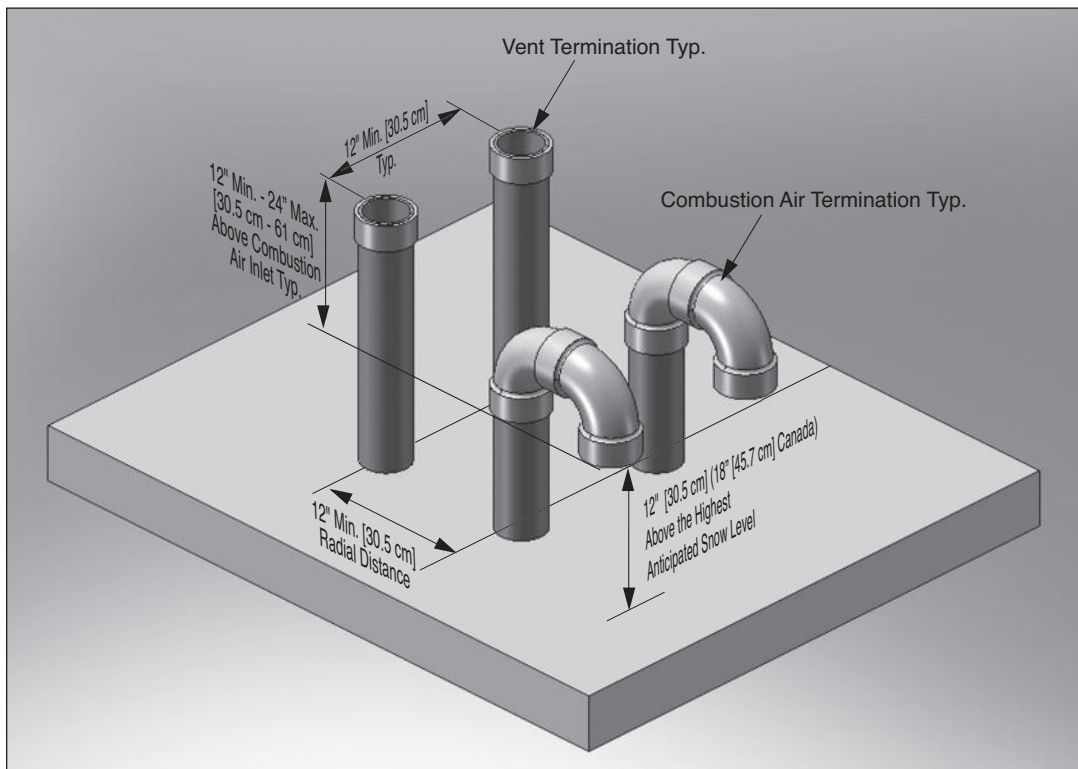

Fig. 7: Direct Vent - Vertical Termination of Multiple Boilers
2. The roof penetration of the vent and combustion air piping should be such that the combustion air inlet is a minimum 12" [30.5 cm] from the adjacent vent pipe of the other boiler for installations in the U.S. as shown in Fig. 7. For installations in Canada, provide clearances as required by CAN/CSA B149.1.